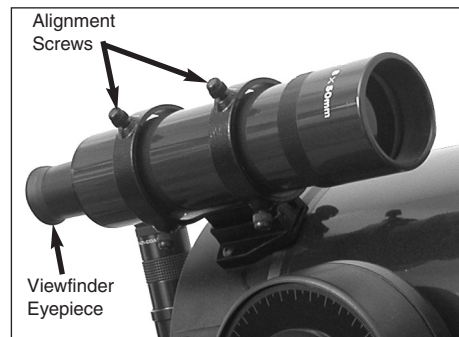

Fig. 6b: Viewfinder Assembly.
5. Look through the viewfinder eyepiece (**Pg. 7, Fig. 6b**) and loosen or tighten, as appropriate, one or more of the viewfinder alignment screws (**Pg. 7, Fig. 6b**) until the viewfinder crosshairs are precisely centered on the object you previously centered in the telescope eyepiece.